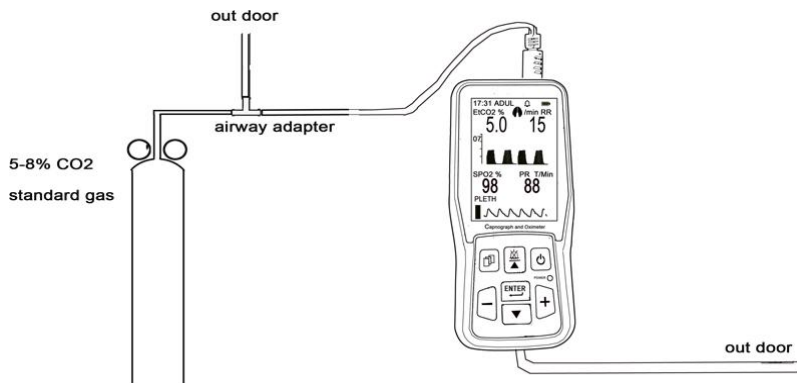

Figure 17
**Three-way connector:** A three way connector with an inner diameter of 1-3 mm (one connection vented to open air) must be used to protect the monitor when calibrating using a CO2 standard gas bottle see figure 17. The device **will be damaged** by the high pressure of the standard Cal Gas Bottle if the connector is not used. It is strictly forbidden to connect the cal gas bottle directly to the device. One end of three-pass connector must be directly open to air to release gas pressure and protect the monitor.